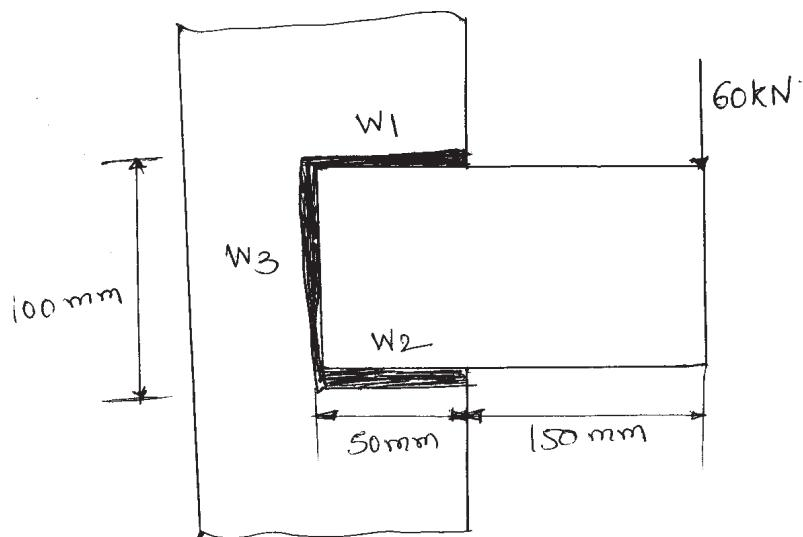

fig 4B. Weld (Q.No 4B)
- b) A welded connection as shown in fig. 4B. is subjected to an eccentric force of 60 kN in the plane of the welds. Determine the size of the welds, if the permissible shear stress for the weld is 100 N/mm², Assume static condition. [12]